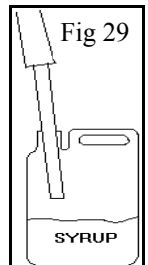

Fig 29
2. Lift syrup dip tubes above liquid level in product container Fig 29 & press primer switches to empty lines, then place in a container of clean water and prime through to dispense nozzle then lift out of water & continue until empty.